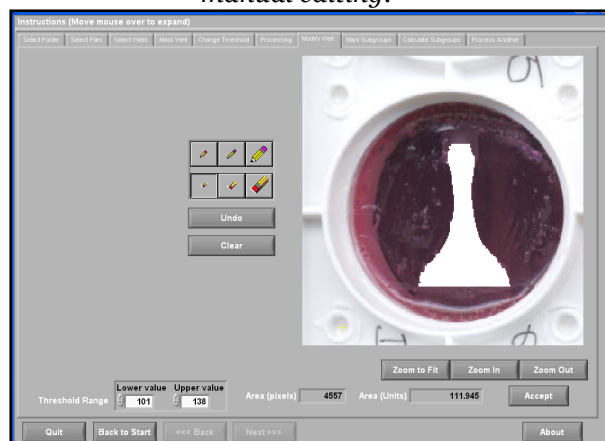

Figure 29. Adjust the threshold and use the editing tools to modify a specific well image.
2. When the threshold in the image is satisfactory to the user, select *ACCEPT* (Fig. 29). This action will navigate the user back to the *PROCESSING* screen with the updated information from the *MODIFY WELL* screen in the selected cell. Repeat this process until all the well images are acceptable and then select *NEXT* on the processing screen.